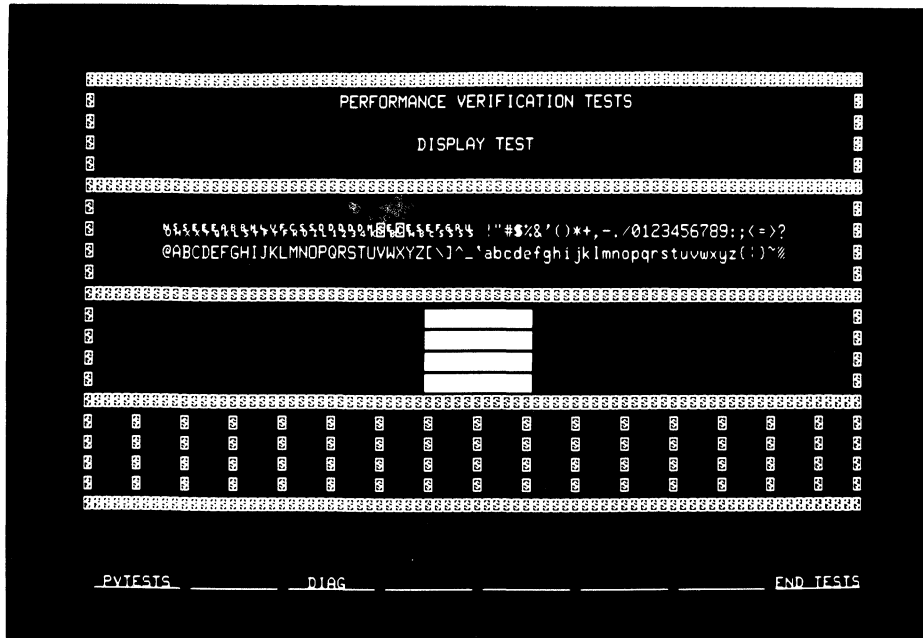

Figure 2-6. Display Test
There are two methods of conducting the Performance Verification tests. One method is to set the SYSTEM CONTROL SOURCE switches on the rear panel of the instrument for PERFORMANCE VERIFICATION (11). Turn the development station power ON. There will a loud beep the instant that power is switched on. Several additional beeps will be heard and a display pattern shown in figure 2-6 will become visible.